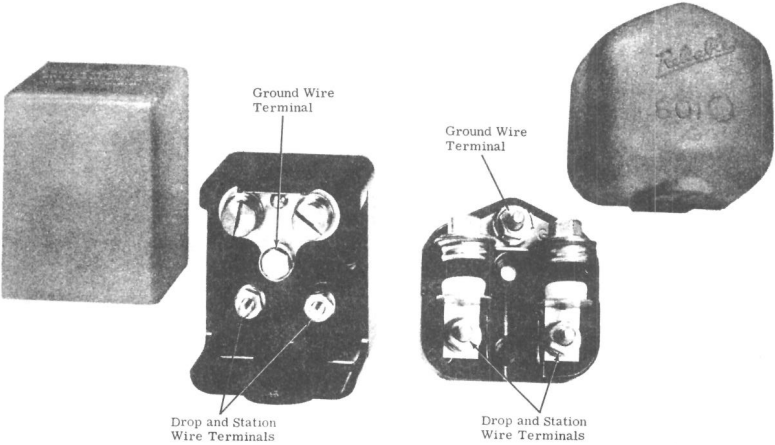

Figure 3 Fuseless Protectors
- 1.04 Fuseless protectors (see Figure 3) are Underwriters Laboratories approved and consist of a molded plastic base, two binding posts for terminating line and station wires, a binding post for the ground wire, and two protector units. Covers are neoprene or plastic.